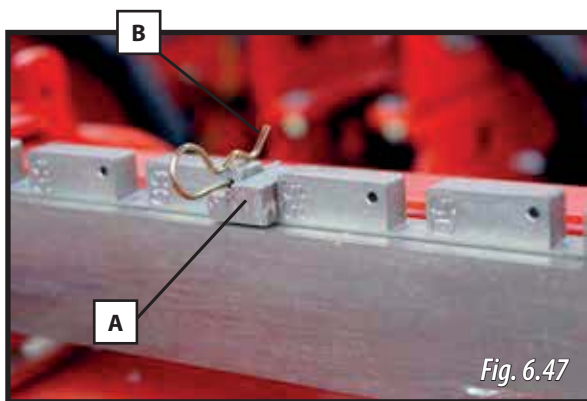

Fig. 6.47
- 1-** Remove the pins (B, Fig. 6.47) of the units. Also remove the aperture stops (A, Fig. 6.47).
- 2- Remove the metering unit's pins (B, Fig. 6.47) and the aperture stops (A, Fig. 6.47).